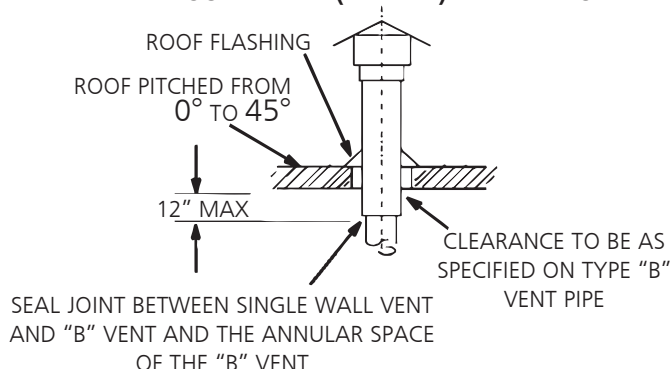

FIGURE 2
1. US: MHU unit heaters are to be used with NFPA- or ANSI-approved chimneys, U.L. listed type B-1 gas vents, single wall metal pipe, or listed chimney lining system for gas venting where applicable, as well as the modifications and limitations listed in figure 2. Seal single wall vent material according to the section A - General Recommendations and Requirements.
8. When termination is routed through an exterior combustible wall the vent must be supported using a listed clearance thimble. Seal the connection between the single wall and double wall pipes and the annular space of the double wall pipe as shown in figure 2. Inside edge of vent termination tee must be at least 12 inches from outside wall as shown in **figure 3**.